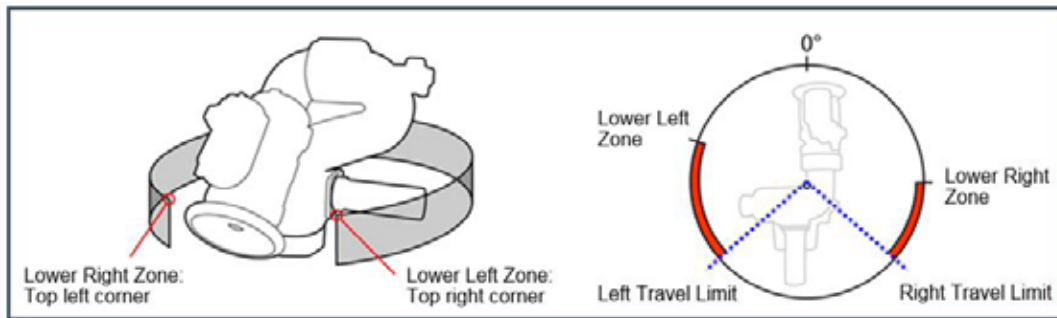

Figure 1: Keep-Out Zones
- Lower-Right Keep-Out Zone – The Right Keep-Out Zone will prevent the monitor from moving down and to the right into a specified zone (reference figure 1).
- Lower-Left Keep-Out Zone – The Left Keep-Out Zone will prevent the monitor from moving down and to the left into a specified zone (reference figure 1).